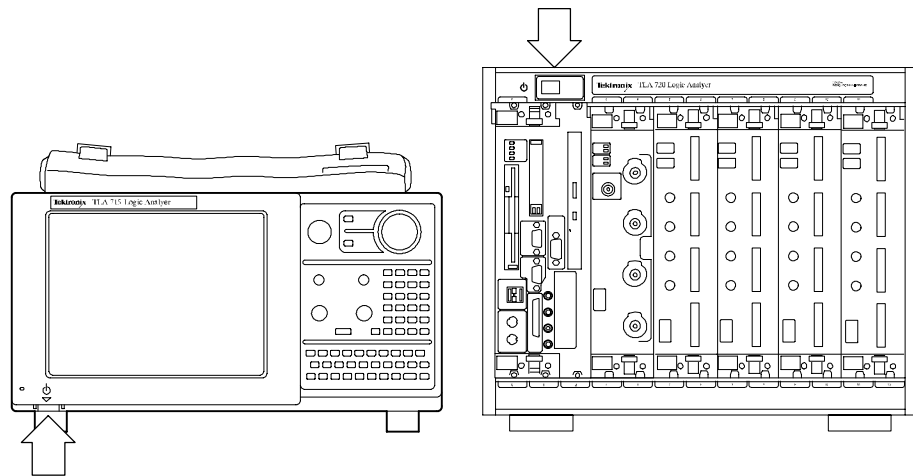

**Figure 1-16: On/Standby switch locations**
- a. Press the On/Standby switch to turn on the mainframe (see Figure 1-16 for the switch location).